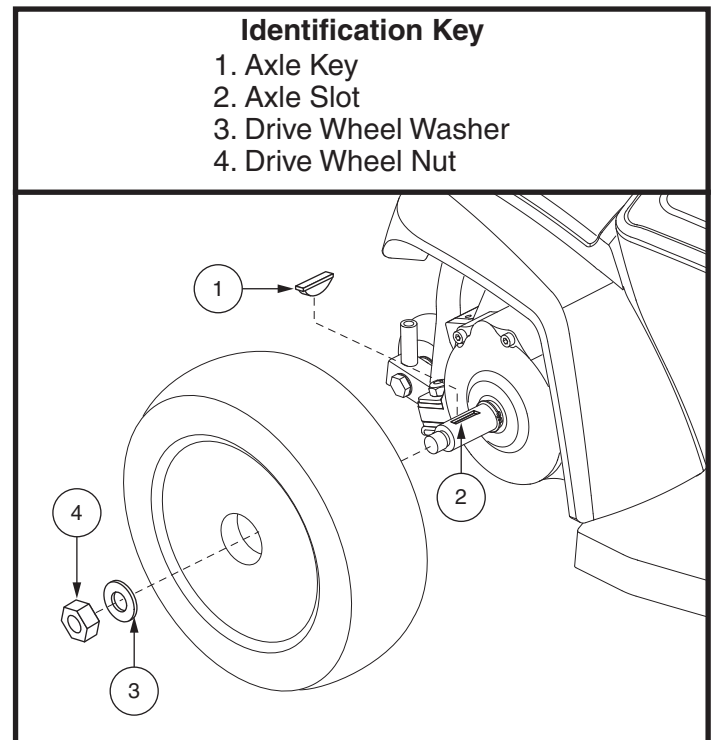

Figure 18. Go Chair Drive Wheel
3. Remove the drive wheel nut and washer from the axle. **See figure 18.**